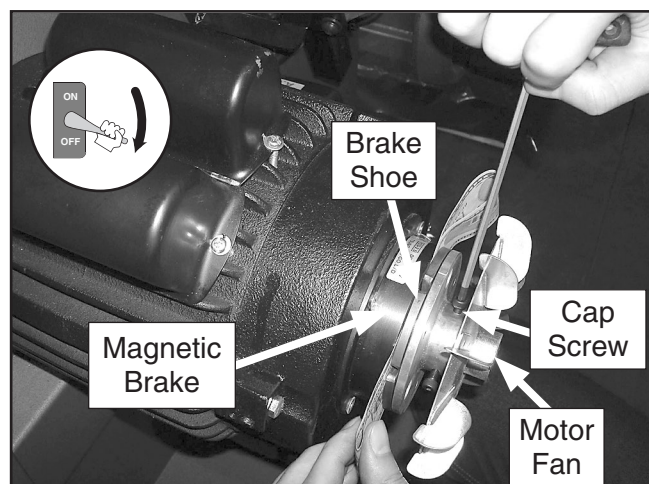

Figure 7. Adjusting distance between magnetic brake and brake shoe.
2. Remove the motor fan cover, then loosen the cap screws securing the motor fan and brake shoe (see **Figure 7**).
3. Fold two dollar bills in half and slide them (or use feeler gauges) between the brake shoe and magnetic brake on both sides (see **Figure 7**).